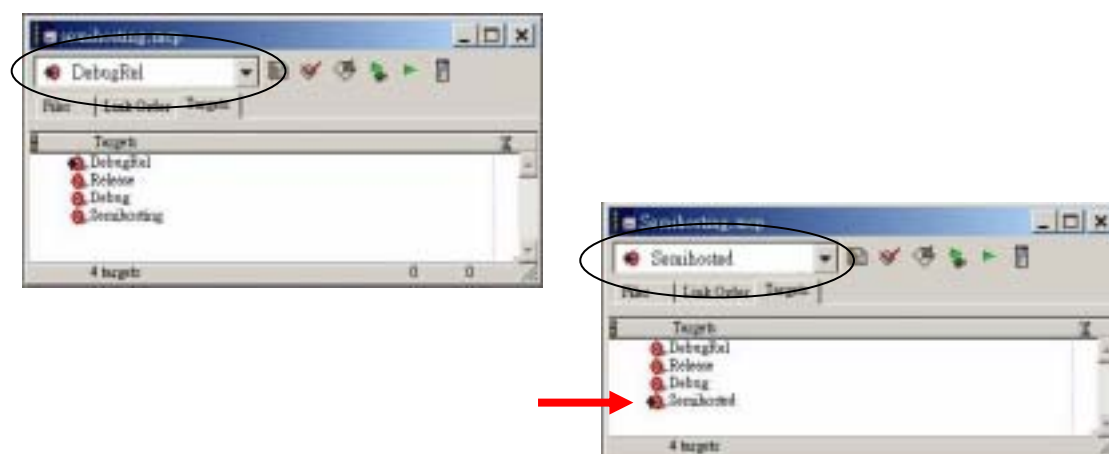

Figure 5 Semihosted Target
- (1) Click the build target drop-down list to select the **Semihosted** target (Figure 5).